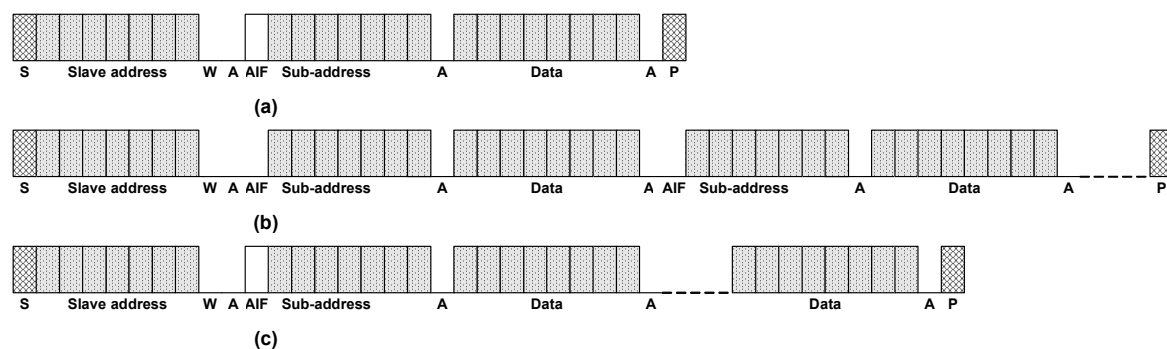

Figure 5 Write Mode Sequence
I2C data can be written on NTP3000 by using modified I²C write operation. **Figure 5** (a) shows writing 1-byte register data procedure. Followed by START condition, master notices the data transfer mode to NTP3000 by sending slave Address with WRITE operation bit (W). NTP3000 sends acknowledgement bit (ACK) to master when it receives the slave Address correctly and is ready for response. After checking the ACK, master sends NTP3000 the sub-Address which means the register Address of NTP3000. The sub-Address is composed of 7-bit register Address and 1-bit Auto Increment Flag (AIF). When NTP3000 receives the sub-Address correctly, NTP3000 sends ACK to master. After checking the ACK, master sends data which means the register value to NTP3000. Master checks ACK and 1-byte register data writing procedure is finished by initiating the STOP condition.
AIF is used for writing multi-byte to NTP3000. Multi-byte register data writing procedure is shown in **Figure 5** (b), (c).